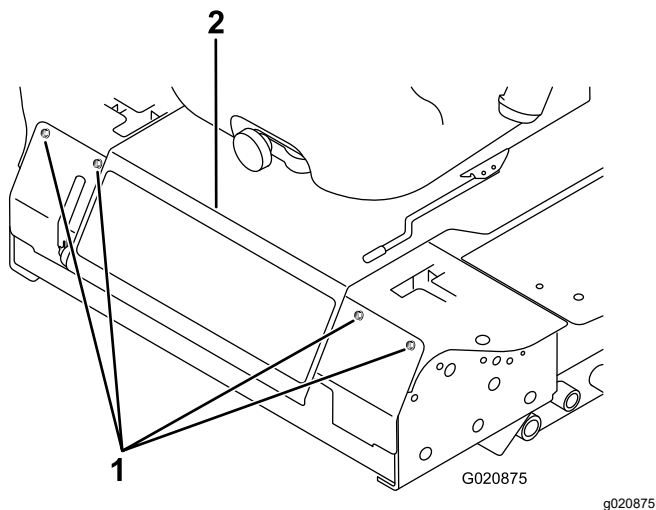

Figure 54
3. Remove the bolts securing the front panel and remove the panel (Figure 54).